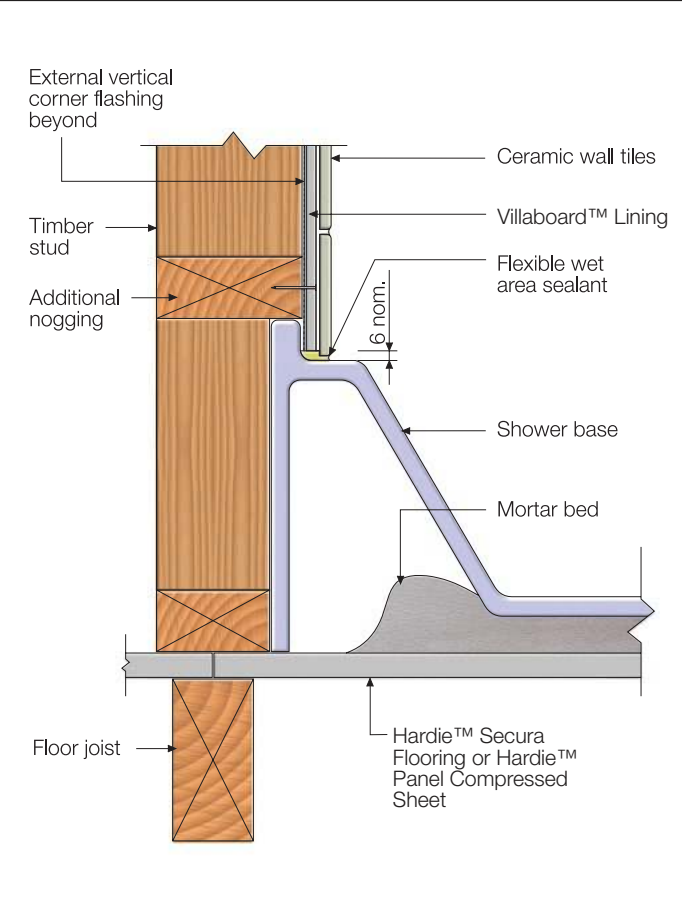

FIGURE 18A PREFORMED TRAY DETAIL FOR VILLABOARD™ LINING TO BE TILED - TIMBER FRAME
- Where wall/floor junctions are flashed with an external angle (or when an external membrane or base is used), Villaboard™ Lining to be finished with tiles must not be fixed to bottom plates. In these cases, provide an extra row of noggings above top of the flashing/membrane for fixing Villaboard™ Lining. See Figure 18A & 18B.
With Villaboard™ Lining that will be tiled, sealing is required around preformed trays and bases, see Figure 18A & 18B respectively. These trays and bases are usually manufactured from plastic, fibreglass or stainless steel, in a variety of sizes and configurations. Preformed trays and bases must be installed to manufacturer's instructions.